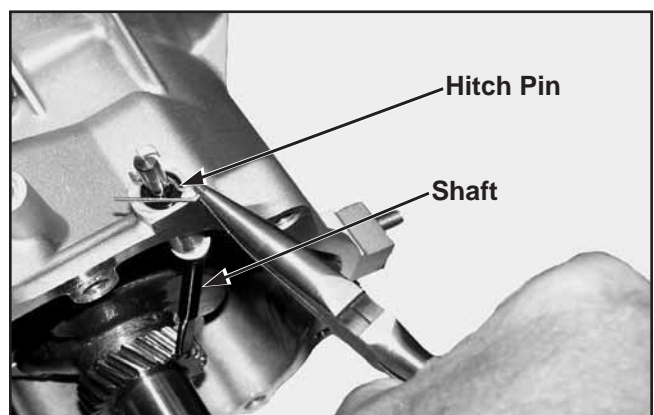

Figure 10-10. Installing Governor Shaft, Hitch Pin.
2. Install the governor cross shaft and secure it with the hitch pin. See Figure 10-10.